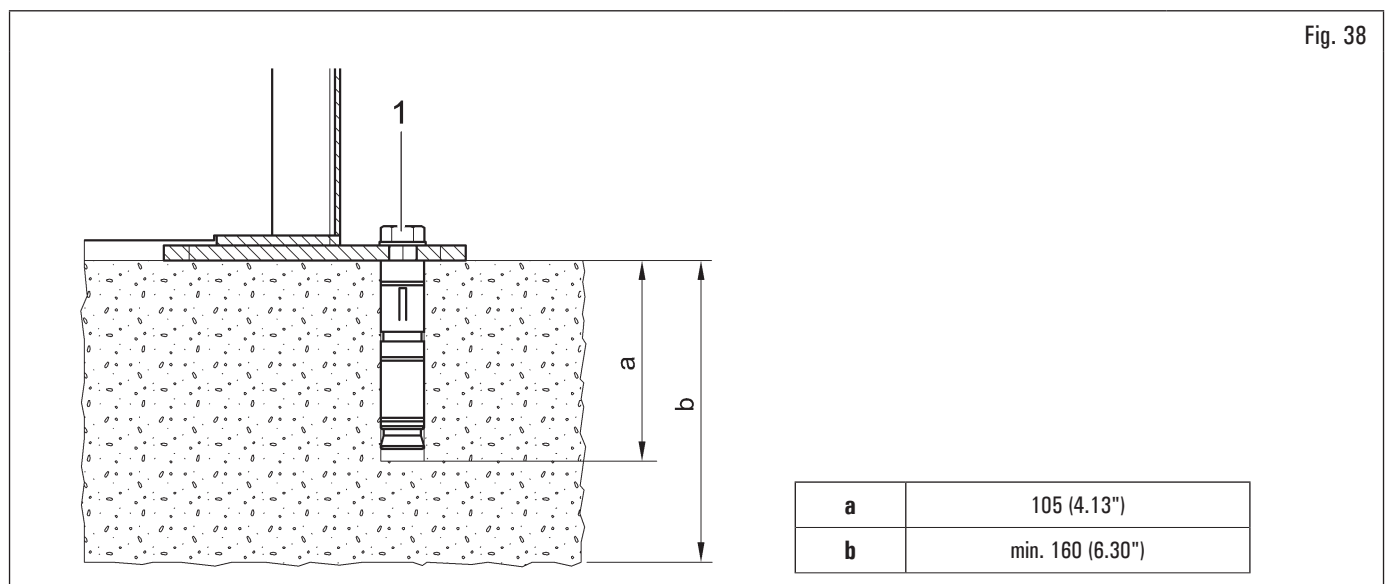

Fig. 38
The packed equipment is secured to the support pallet through the holes on the frame and indicated in the figure below. These holes can be used to secure the equipment to the floor, using suitable concrete anchors (not included). Before concrete anchoring to floor, check that all the anchor points are flat, or level in contact with the floor. If not, shim between the equipment and the floor, as indicated in Fig. 38.
- To secure the equipment to the floor, use anchoring bolts/studs (Fig. 38 ref. 1) with a threaded shank M8 (UNC 5/16) suitable for the floor on which the wheel balancer will be secured and in a number equal to the number of mounting holes on the bottom frame;